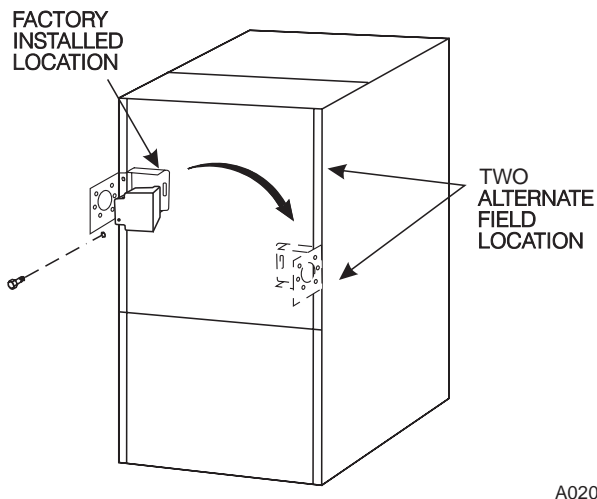

Fig. 22—Relocating J-Box
1. Remove and save two screws holding J-box. (See Fig. 22.)
4. Remove and save two screws holding J-Box. (See Fig. 22.)